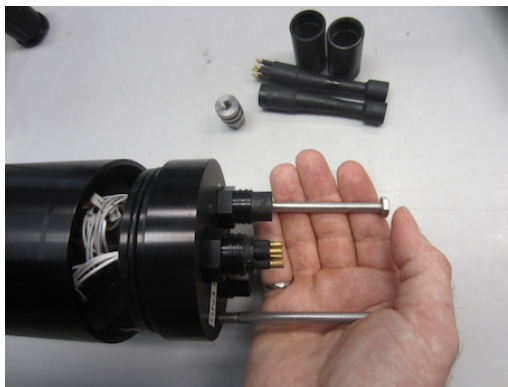

Figure 16: Leverage to Remove the Rear Bulkhead
2. Gently rock the rear bulkhead as you slowly separate it from the pressure tube. If extra leverage is required, install two 1/4-20 × 3 or 4 inch bolts into the two mounting points on the rear bulkhead (Figure 16). Hold onto the pressure tube and gently wiggle the rear bulkhead out of the tube by holding onto the bolts.